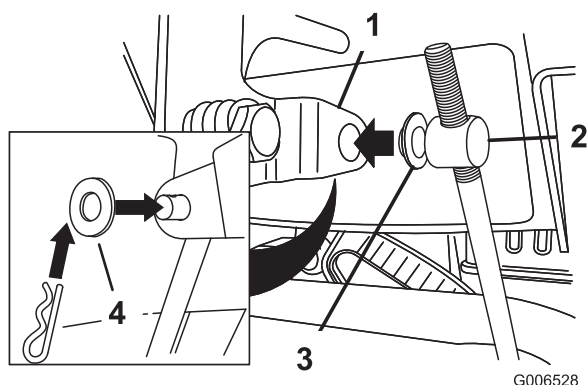

Figure 5
3. Place a flat washer on the trunnion (Figure 5).
6. Pull up on the speed control rod and insert the trunnion into the hole in the speed selector lever (Figure 5).
- B. Disconnect the trunnion from the speed selector lever (Figure 5).
- C. Turn the trunnion downward (clockwise) on the speed control rod (Figure 5).